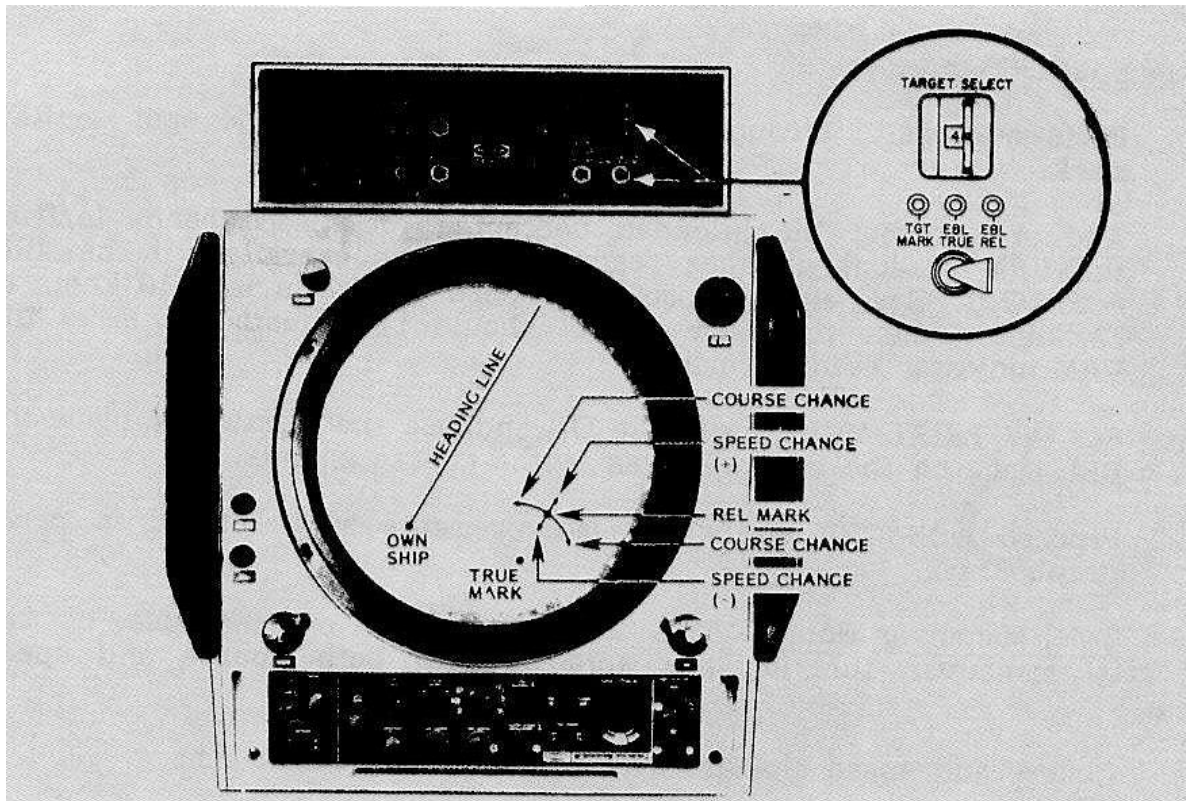

Figure 3-7 Trial Maneuver Variables
3.4.3 Trial Maneuver (Figure 3-7)